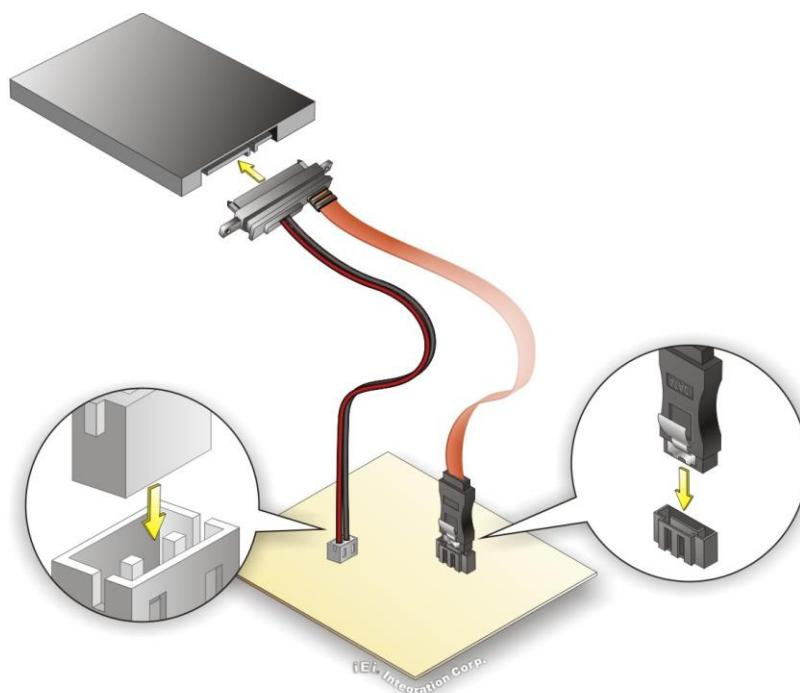

Figure 4-14: SATA Drive Cable Connection
Step 2: Insert the cable connector. Insert the cable connector into the on-board SATA drive connector and the SATA power connector. See Figure 4-14.